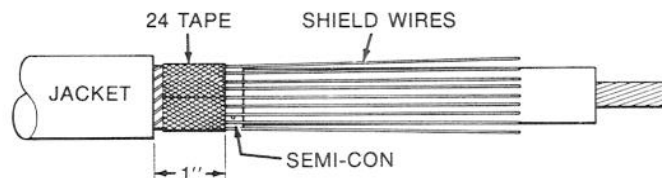

Figure 2
1. Wrap two full wraps of Scotch Brand 24 Shielding Tape over shielding wires at jacket edge with front edge of 24 Tape one inch from jacket cut off. Figure 2.